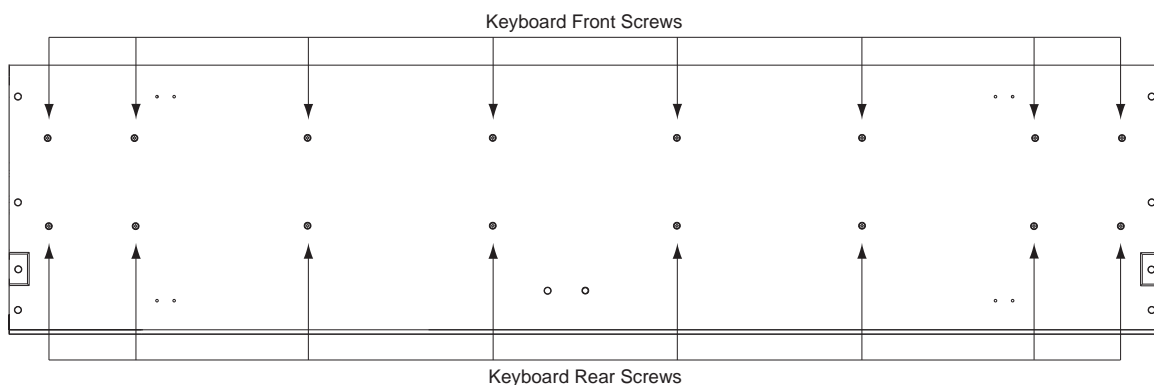

Figure 3-8 **SP4-7 keyboard bottom**
3. The keyboard is secured to the bottom enclosure using sixteen screws. Refer to Figure 3-8 for the position of the screws. Arrows identify the locations of the screws.
2. Slide the bottom enclosure forward so that you can install the eight keyboard front screws. Refer to Figure 3-8 for the location of the screws. Before fully tightening these screws, check that the white keys have enough clearance between the front of the keys and the front of the enclosure so that they can be fully depressed. If more clearance is needed, move the keyboard slightly farther from the front of the bottom enclosure.
4. Tilt the bottom enclosure up and install the eight keyboard rear screws. Refer to Figure 3-8 for the location of the screws.